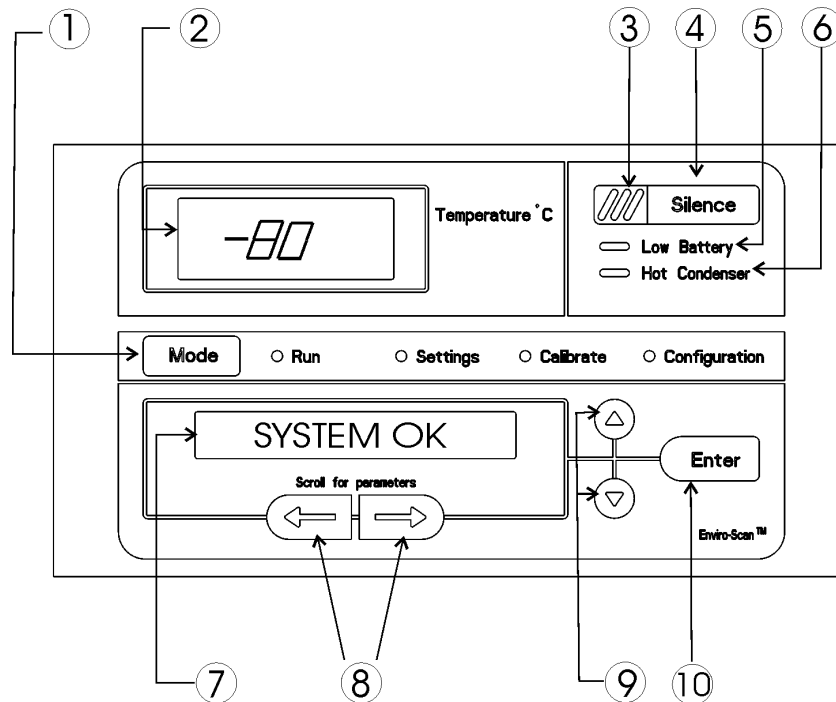

Figure 1-6, Control Panel
1.2 Control Panel Keys, Displays and Indicators (See Figure 1-6)